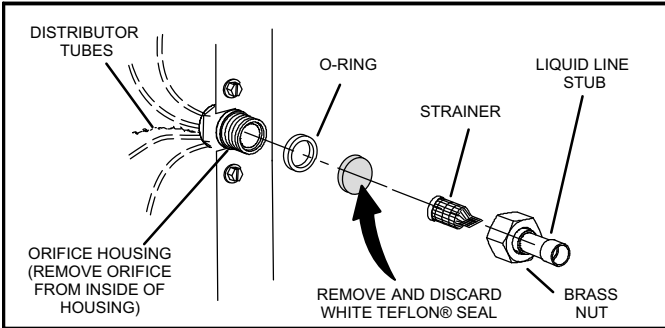

Figure 9. Typical Fixed Orifice Removal
3. Remove and discard the existing orifice, valve stem assembly (if present) and Teflon ring as illustrated in figure 9.